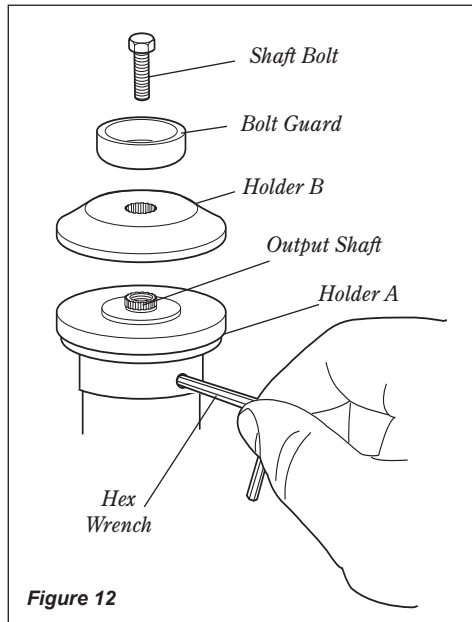

Figure 12
1. Align the hole in blade holder A with the matching hole in the gear case flange and then temporarily lock the output shaft by inserting a hex wrench through both holes. See Figure 12.